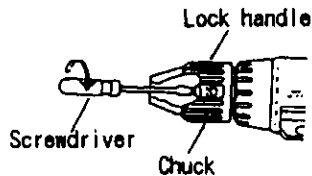
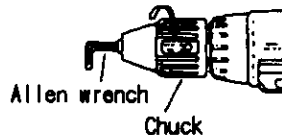

Fig. 1
Fig. 2
(Drill Chuck Removal) (Fig. 1 - 4)
(1) Turn the lock handle counterclockwise to open the chuck jaws. (Fig. 1)
(2) Use a screwdriver to turn the chuck fastening screw inside the chuck clockwise, and remove the screw.
* If the chuck fastening screw will not come loose, insert the lock release rod into the chuck and lightly tap in the clockwise direction with a hammer to tighten the chuck, and then loosen the chuck fastening screw. (Fig. 2)